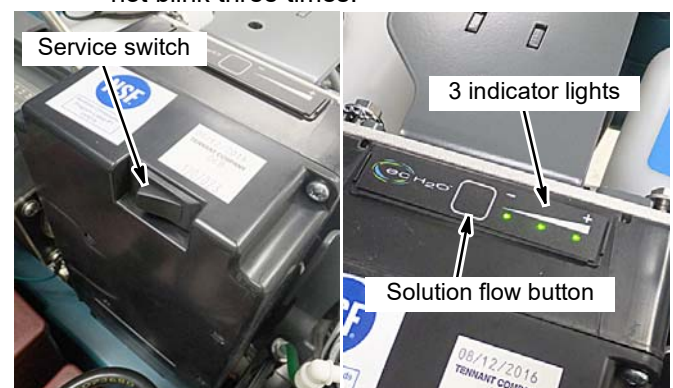

FIG. 96
- b. Press and hold the service switch, located on the ec-H2O module, for 10 seconds. After releasing service switch, the three solution flow indicator lights will begin to (ripple) move back and forth (Figure 96).
- c. Within 5 seconds after releasing the service switch, while the three indicator lights are moving back and forth, quickly press and release the solution flow button located on ec-H2O module (Figure 96). The three indicator lights will then blink three times to indicate timer has been reset.